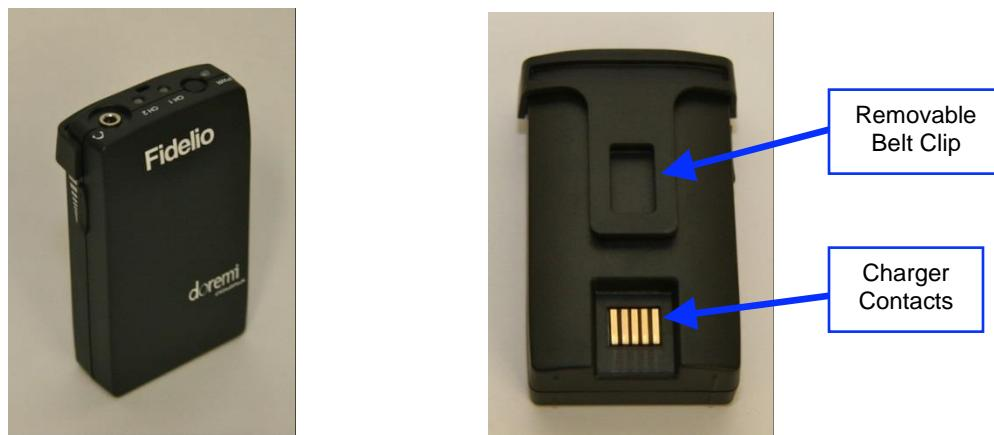
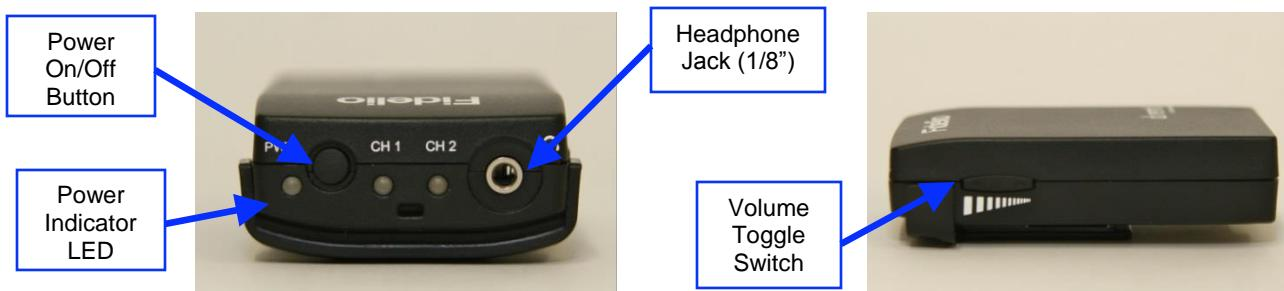

Figure 2: Fidelio Receiver and Rear View
Figure 3: Fidelio Receiver – Top View and Side View
The Fidelio Receiver (Figure 2 and Figure 3) is the device that an audience member obtains from the theater customer service kiosk. This receiver is to be configured using the touchscreen tablet interface for the auditorium number that is enabled for Fidelio transmission. The patron then takes the receiver into the assigned auditorium to receive the transmission from the Fidelio Transmitter that has been configured for that assigned auditorium within the multiplex. Depending on the configuration assignment, the receiver will either receive the Hearing Impaired (HI) audio track, the Visually Impaired Narrative (VI-N) audio track or both the HI + VI-N audio tracks.